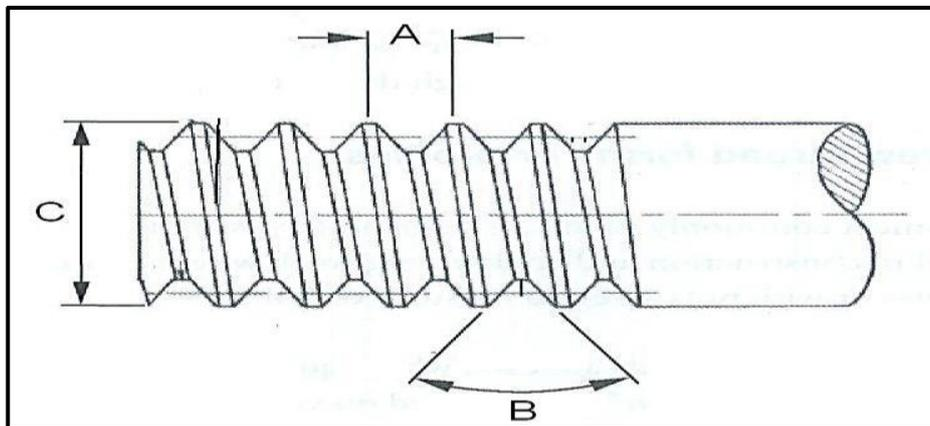

FIGURE 10.1
10.1 Screw threads are fundamental to industrial progress, FIGURE 10.1 is an external metric screw thread which can be manufactured by cutting on a lathe.
1 FIGURE 10.1 and write down the DEFINITION for each label.